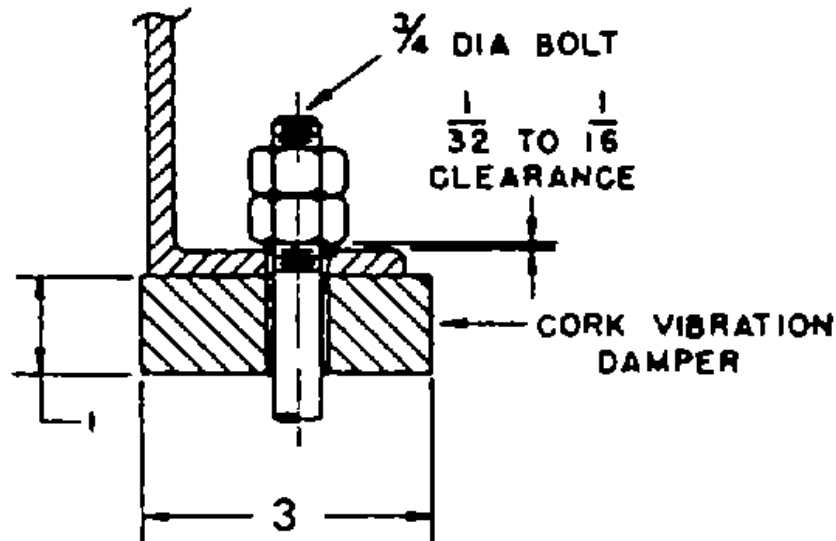

Fig. 2 Illustration depicting the proper placement of the vibration isolation pad.
1. Mount the blower on any level concrete floor or pad. The location chosen must provide an unobstructed flow of air to the blower inlet. If the blower is installed on a floor on which other machinery is mounted, install vibration isolation pads between the blower base and the floor. In addition, the mounting bolts must be isolated from the blower base. This configuration is shown in figure 2. Cork isolation pads are available from Hauck.